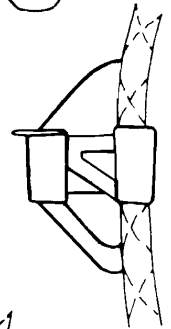

Figure 3
2. Your rope slips in here (See figure 3).